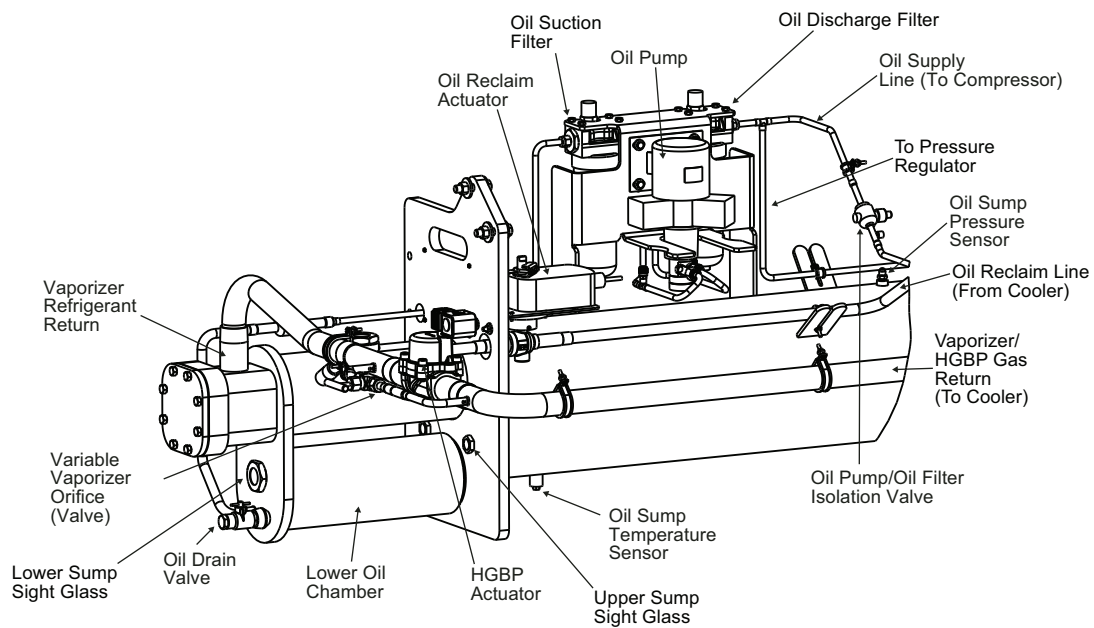

Fig. 33 — Oil Reclaim Components (Unit with R Compressor Shown)
7. Disconnect all wires and cable leads to the vaporizer assembly (see Fig. 33) including: